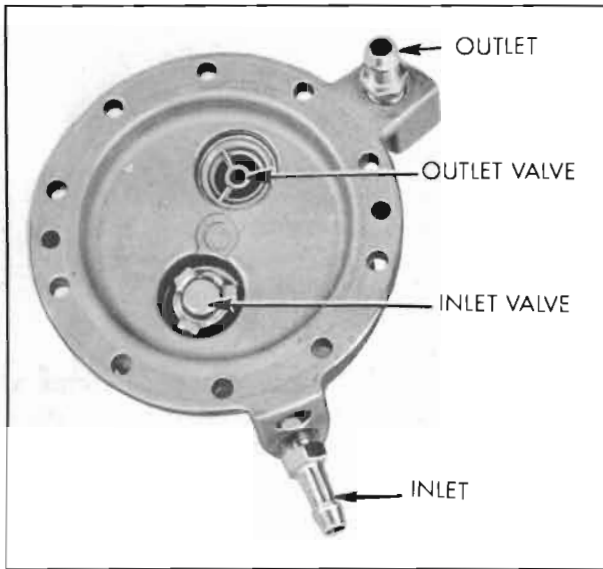

Figure 3-16—Valves in Fuel Cover
4. Place a new gasket in each valve seat in fuel cover. Place valve in seat nearest "IN" connector with spring cage facing up. Place other valve in outlet valve seat with spring cage down. See figure 3-16.